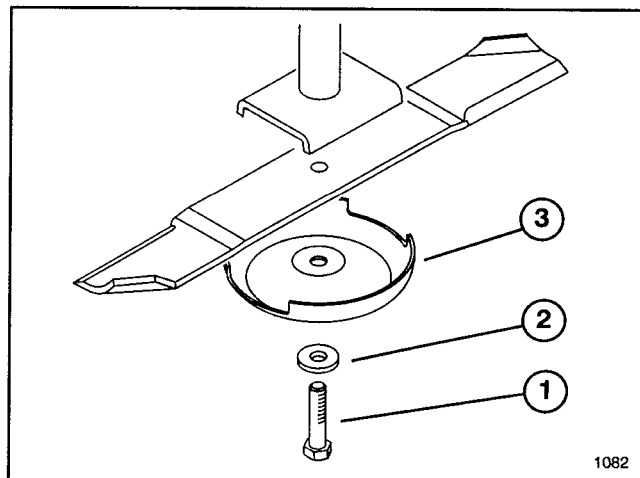

Figure 23
2. Hold the blade end using a rag or thickly padded glove. Remove blade bolt, flatwasher, anti-scalp cup and blade from spindle shaft (Fig. 23).
3. Install blade-sail facing toward cutting unit with anti-scalp cup, flatwasher and blade bolt (Fig. 23). Torque blade bolt to 85–110 ft. lb. (115–150 Nm).